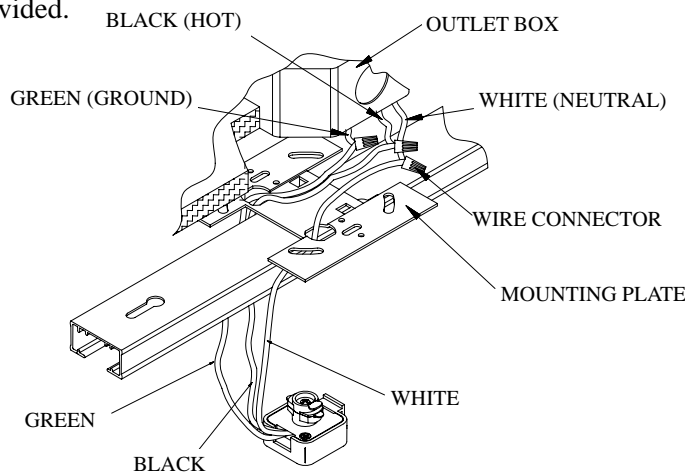

FIG. 4
2. Connect the white wire (neutral or common) from the supply circuit to the white from the floating live-end connector. Connect the black (hot) wire from the supply circuit to the black wire from the floating live-end connector. Connect the green or bare copper ground wire from the supply circuit to the green conductor of the floating live-end connector. Secure splices with UL Listed wire connectors suitable for the size, type and number of conductors. (see Figure4.)